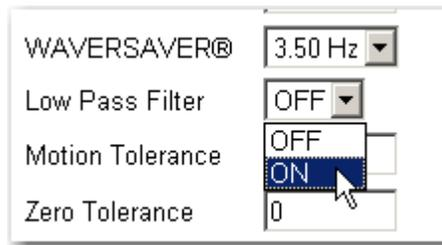

FIG. 196 INSTRUMENT SETUP/LOW PASS FILTER
Step 1. Click on the Low Pass Filter pull down list. (See Fig. 196)